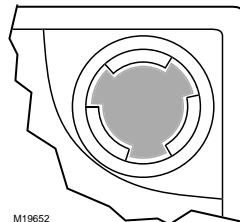
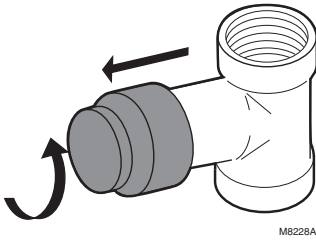

Fig. 2. Valve position indicator.
Fig. 3. Removing protective cover from valve.
Fig. 2 shows the M6435A, M7435F valve position indicator. To mount the actuator, refer to Fig. 3 through 4:
1. Remove valve protective cover (Fig. 3).